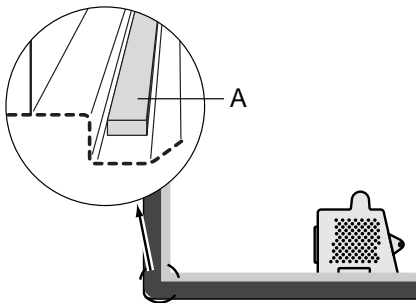

fig. 7 CKB 640
- Stick the sealing strip (A) supplied onto the underside of the hob (see fig. 7 and 8).